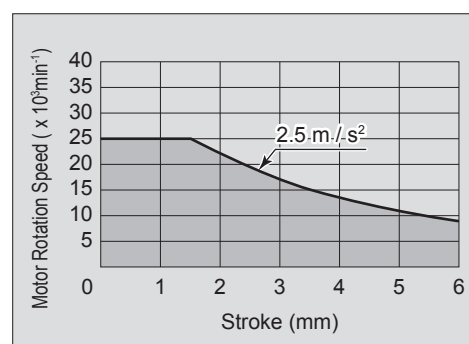

Fig. 1
- Do not use LUSTER at vibration levels of 2.5 m/s² and higher. Select the combination of motor rotation speed and stroke so that the vibration level stays in the shaded area as shown on the chart lower right (Fig. 1)
Maximum Allowable Motor Rotation Speed	Less than 25,000min ⁻¹ (rpm) (Refer to Fig. 1)
Vibration Level	Use the Attachment less than 2.5m / s ² (Refer to Fig. 1)
- Adjust the stroke according to the " 1. CAUTIONS FOR HANDLING AND OPERATION (Fig. 1) ".